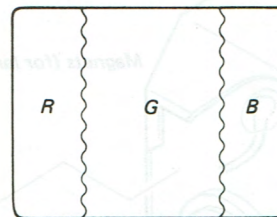

Fig. 1-3.
8. Turn purity knob as shown in Fig. 1-3 to bring the green to the center of the screen.